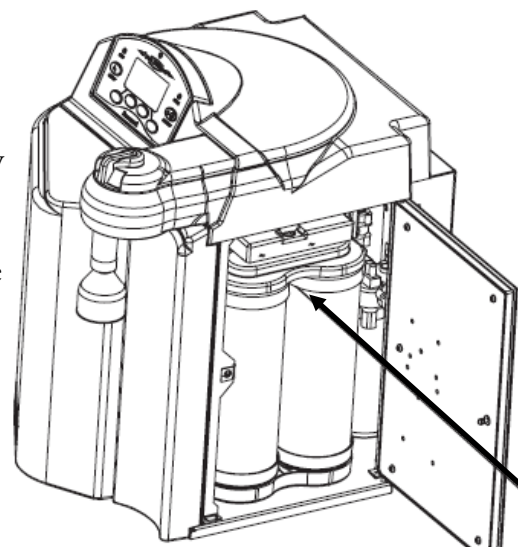

Figure 5-2. Cartridge Pack Installed
2. Open the right side door (Figure 5-2).